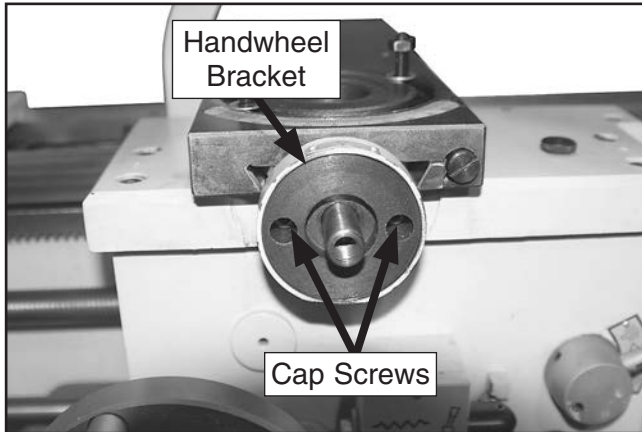

Figure 8. Handwheel bracket cap screw locations.
- Slide the handwheel and graduated dial assembly off the leadscrew, then remove the two cap screws that secure the handwheel bracket to the cross slide (see **Figure 8**).